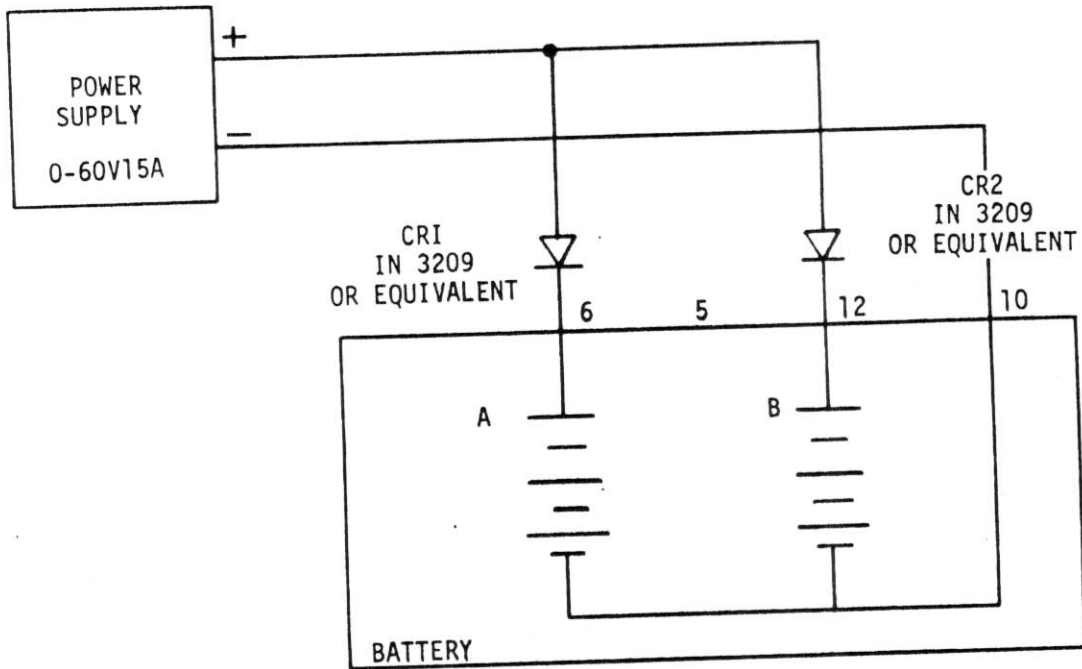

FIGURE 8-13 1G TRAINER BATTERY CHARGING CIRCUIT
- c. Connect a charging circuit equivalent to Figure 8-13.